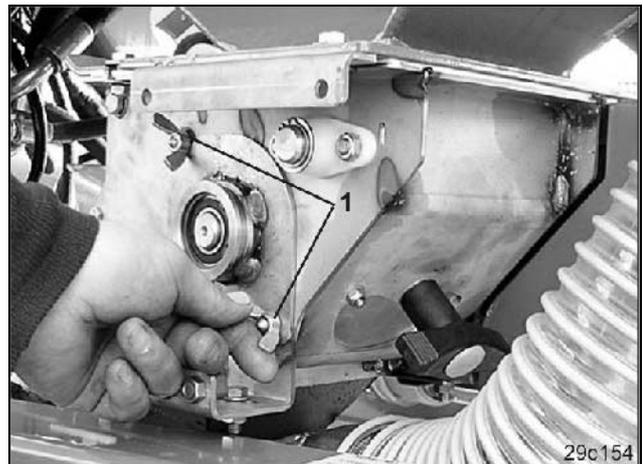

Fig. 58
- Just slacken the two thumb nuts (Fig. 58/1), but do not remove them.